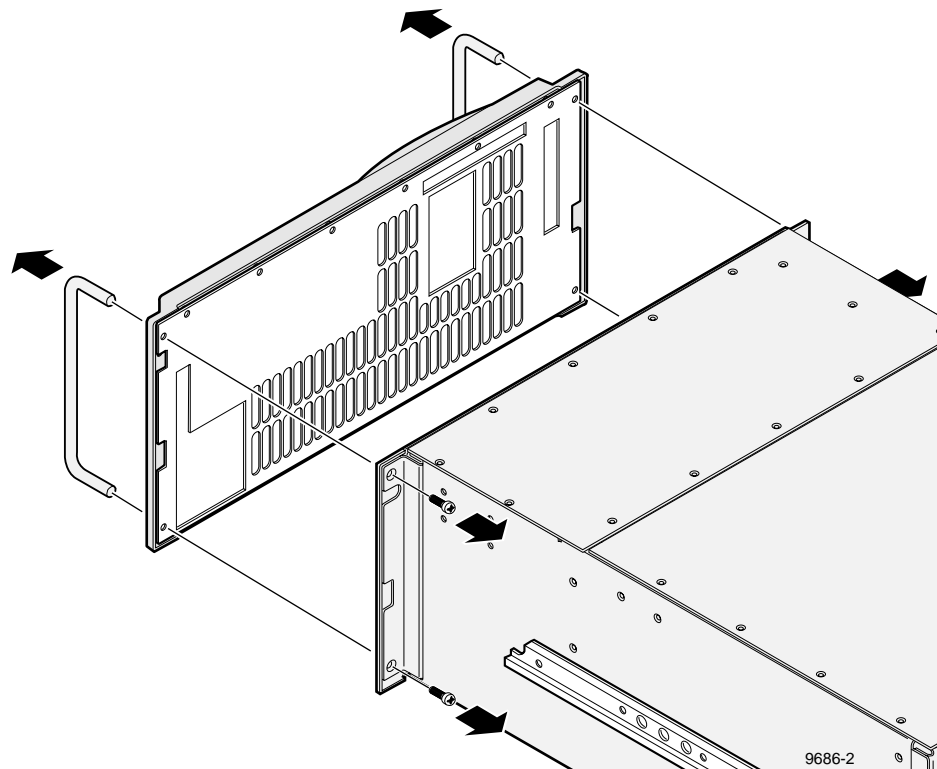

Figure 13. Removing the front panel and backing plate
1. Being careful to support the front panel, use the Torx tool with the T20 tip to remove the four screws that mount the handles and front panel to the chassis (❶ in Figure 13).